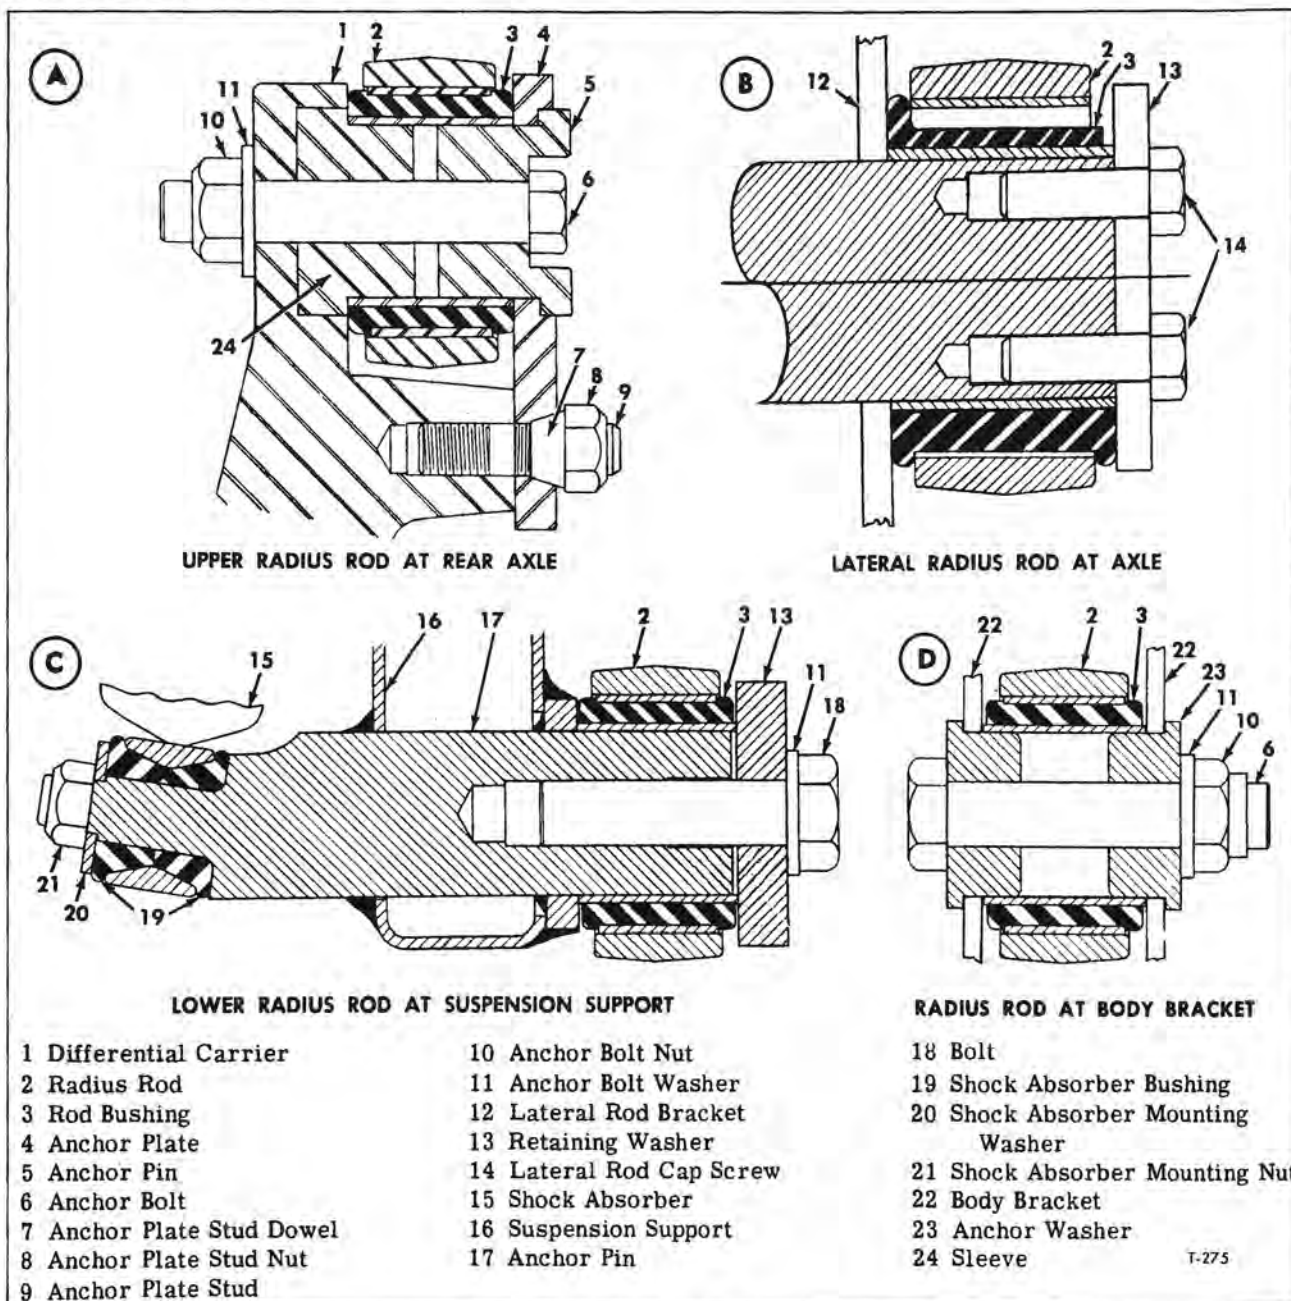

Figure 11—Radius Rod End Mountings
Rear axle upper and lower radius rods are all interchangeable, and front axle lower radius rods are interchangeable. Radius rods are not interchangeable, however, between front and rear axles. Radius rod connections at axle and at body are illustrated in figure 11. These connections are typical for both front and rear rods.
**RADIUS ROD REPLACEMENT (Fig. 11)**
1. Disconnect Radius Rod at Body (All Except Front Lateral. Remove nut from anchor bolt (D, fig. 11). Remove anchor bolt and anchor washer.
2. Disconnect Front and Rear Lateral Radius Rod at Axle and Front Rod at Body. Remove two cap screws and washer. Pull radius rod off anchor pin (B, fig. 11).
3. Disconnect Lower Radius Rods at Axle. Remove attaching bolt, plain washer, and large retaining washer from anchor pin. Pull radius rod off suspension support (C, fig. 11).
axle by following step 1 (D, fig. 11) above. To disconnect rear radius rod at axle, remove two anchor plate stud nuts and two anchor plate stud dowels (A, fig. 11). Remove anchor bolt nut and anchor bolt washer. Remove anchor bolt, anchor pin, and anchor plate. Remove radius rod from sleeve.
6. Connect Lower Radius Rods at Axle. Place radius rod end over anchor pin. Position large washer and install bolt. Tighten bolt finger tight (C, fig. 11).
7. Connect Upper Radius Rod at Axle. Position upper radius rod in front axle bracket and on anchor pin at body end (after installing spacer) and install anchor washers, anchor bolt, and anchor bolt nut (D, fig. 11). Tighten nut finger tight.
Connect upper rod at rear axle as follows: (A, fig. 11) Place radius rod on sleeve. Place anchor plate over studs in differential carrier. Attach with two anchor plate stud dowels and two anchor plate stud nuts. Leave nuts loose. Insert anchor pin and anchor bolt. Install anchor bolt washer and nut. Leave nut loose.
8. Connect Radius Rod at Body (All Except Front Lateral). Place end of radius rod in position. Install anchor washers, anchor bolt, anchor bolt washer, and anchor bolt nut (D, fig. 11). Tighten nut finger tight.
already on anchor pin, position washer and install two cap screws. Tighten cap screws finger tight (B, fig. 11).